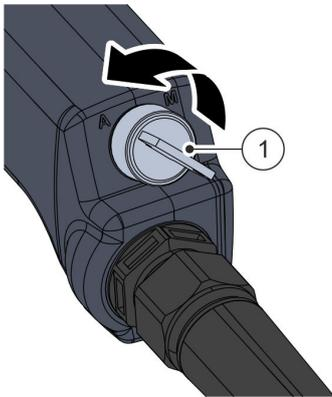

Fig. 67 Switching on automatic mode
01. Turn the mode selector switch Fig. 67 / ① on the handheld controller to position "A".